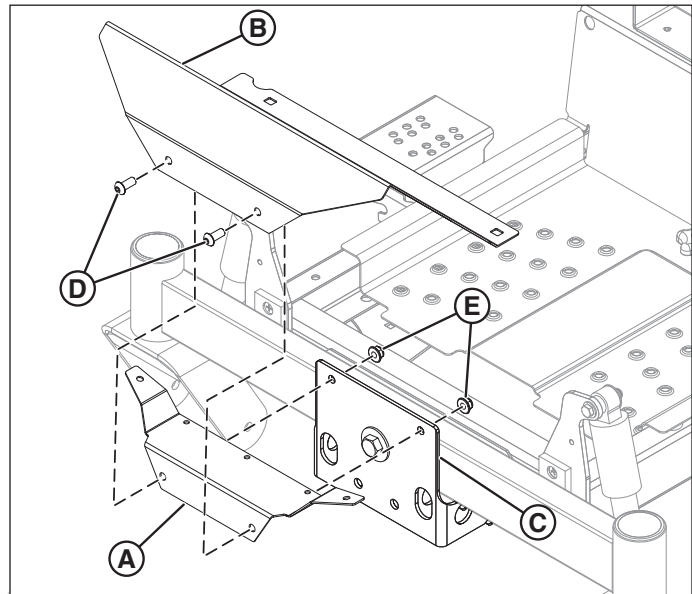

Figure 4. Installing the Mounting Plate (Foot Rest Pulled Away from Unit for Clarity of Image)
10. Put the light mount (**A**, **Figure 4**) between the foot rest (**B**) and the foot rest bracket (**C**) and secure in place using the existing 3/8 screws (**D**) and two new 3/8 nuts (**E**).